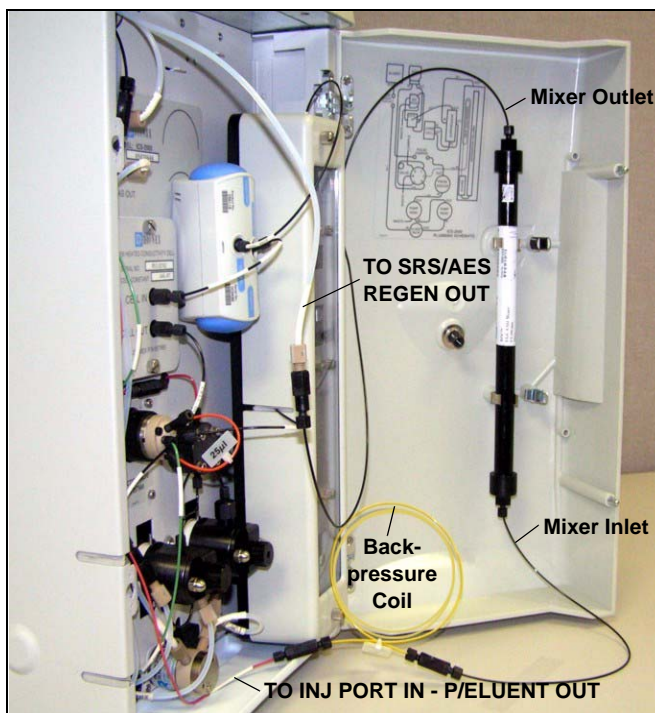

Figure 5-72. Mixer Connected Directly to Eluent Generator Outlet for Initial Filling
2. Use the 10-32 to 10-32 coupler to connect one end of the backpressure coil to the **TO INJ VALVE IN - P/ELUENT OUT** line (see Figure 5-72).